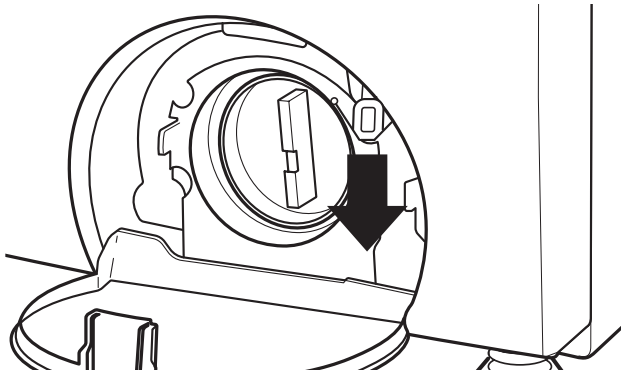

Figure 2
2. Pull down on the plastic strap located beneath the removed screw. The door can now be opened. (See Figure 2.)